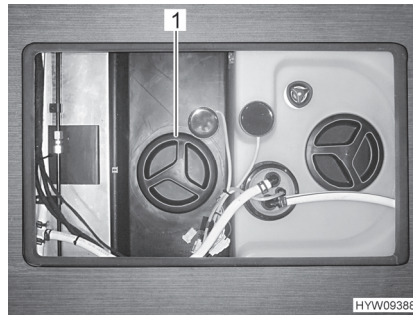

Fig. 209 Cleaning opening (waste water tank)
- Open the cleaning opening (Fig. 209,1) on the waste water tank and the drain cock.